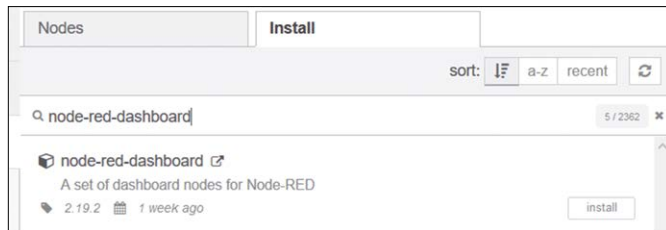

Figure 8.1 Installing the Dashboard
- Enter **node-red-dashboard** and click **install** (see Figure 8.1)